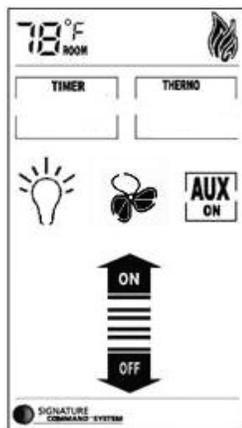

Figure 5.10
**Blower Speed Control (Figure 5.10)**